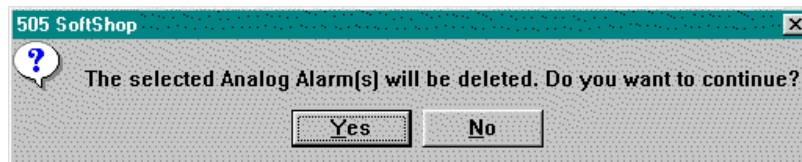

Figure 8.3
2. Select the Analog Alarm number that you want to delete by using the left mouse button or the Arrow keys on the keyboard. Click on the dialog box Delete button or use the keyboard to Tab to the Delete button and press Enter. The following dialog box appears (Figure 8.3).